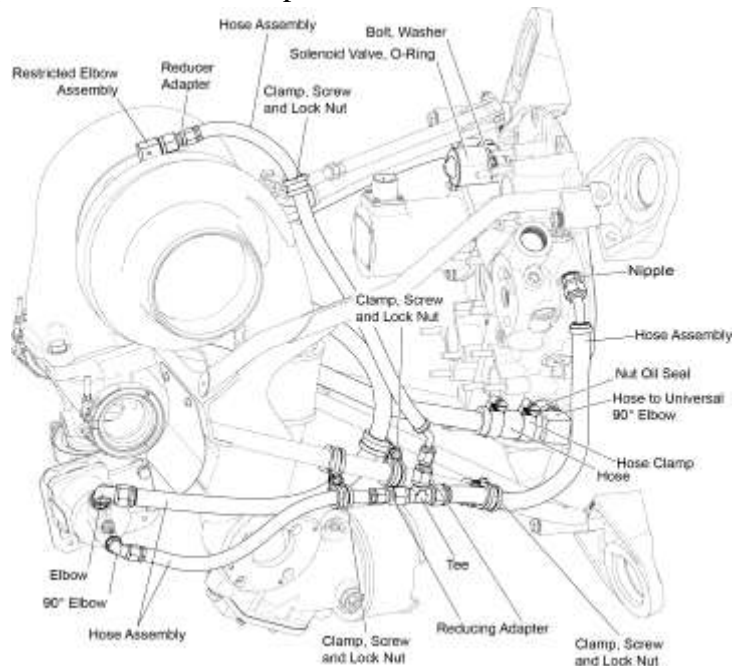

Figure 4
- H. Disconnect the oil supply hose (Figure 4) from the turbocharger. Remove the two bolts, washers, and lock washers from the oil adapter (Figure 5) at the top of the turbocharger. Discard the lock washers.